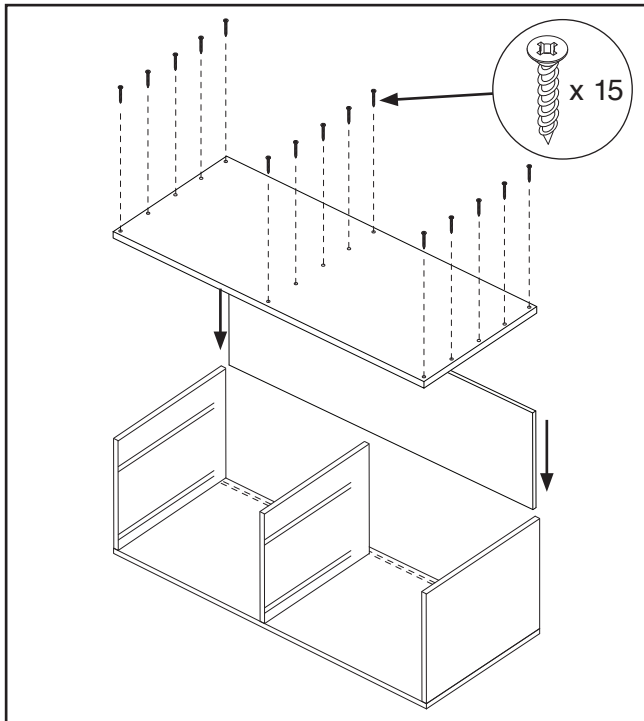

Figure 7. Attaching cabinet back and top.
6. Slide cabinet back panel into grooves in cabinet side and base panels, and attach top panel using (15) M4 x 30 tap screws (see **Figure 7**).